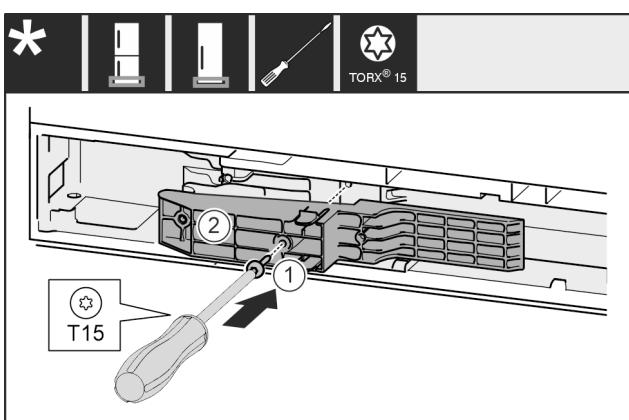

Fig. 47 \*
- ▶ 将把手侧的适配件 Fig. 47 (1)插入凹槽。\*
- ▶ 将螺钉 Fig. 47 (2)用螺丝刀拧紧。\*